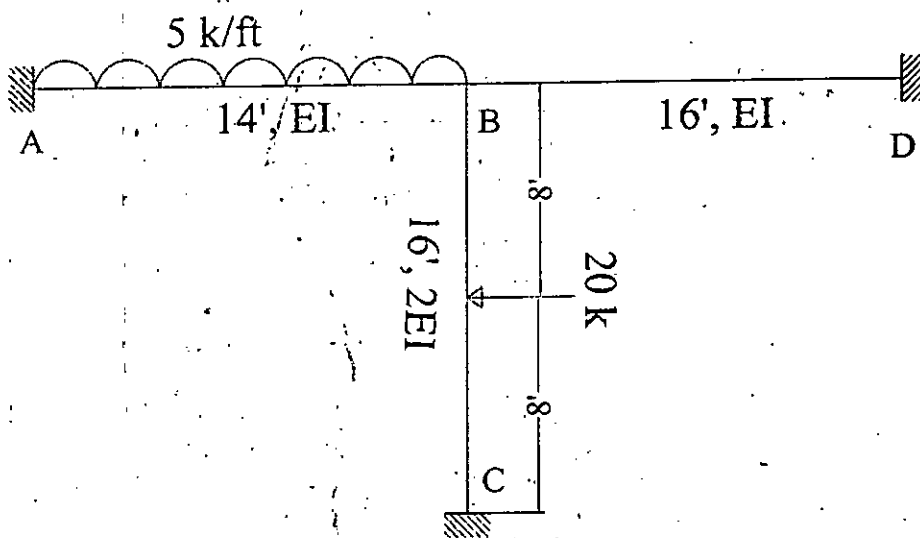

Figure 5.
5. Analyze the non-sway frame in figure 5 using Moment distribution Method. Draw the shear force and bending moment diagrams for the frame. Assume, EI is constant for all the members of the frame.